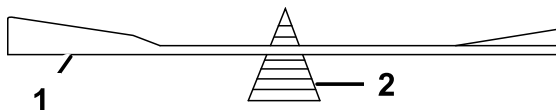

Figure 63
- Check the balance of the blade by putting it on a blade balancer (Figure 63).